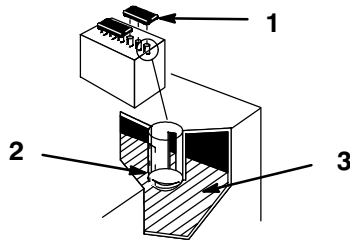

Figure 91
1. Open covers to see into the cells. The electrolyte must be up to the lower part of the tube (Fig. 91). Do not allow the electrolyte to get below the plates. (Fig. 91).
2. Lift off the filler caps (Fig. 91).
3. Slowly pour distilled water into each battery cell until the level is up to the lower part of the tube (Fig. 91).